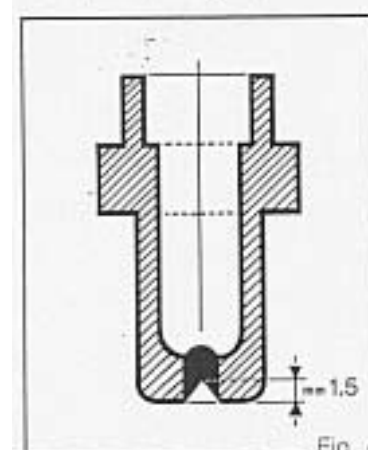
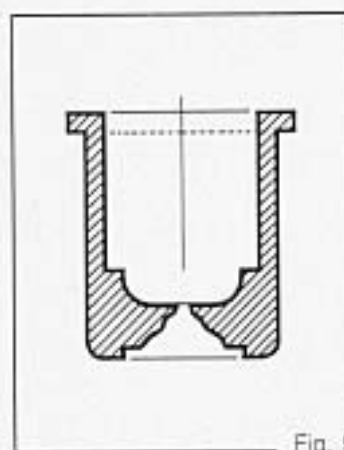
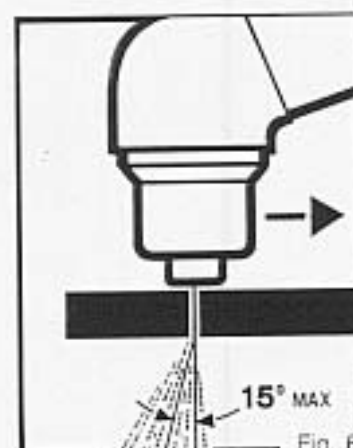
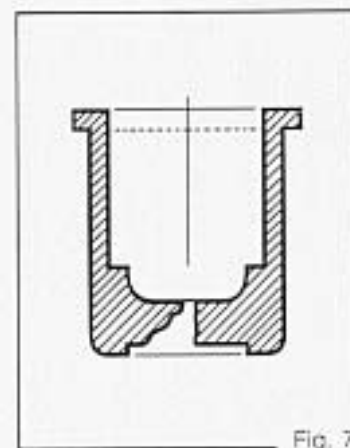

Fig. 4
Fig. 5
Fig. 6
Fig. 7
The electrode **A** must be replaced when it has a crater in the middle approx. 1.5 mm. deep (see fig. 4). The nozzle **C** must be replaced when the central hole is too large compared to that of the new or worn out workpiece (see fig. 5).
- high speed. Always ensure that arc fully goes through the workpiece to be cut and that its inclination is never higher than 10 – 15° (see fig. 6). This will prevent misuse of nozzle (see fig. 7) as well as burnings to nozzle holder (see fig. 5).